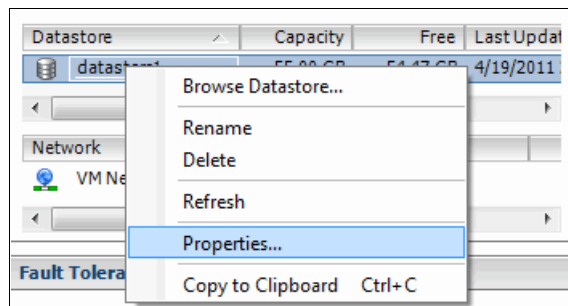

Figure 2-123 Properties of the datastore
2. To check the pathing, right-click the **datastore1** and then click **Properties**, as shown in Figure 2-123.